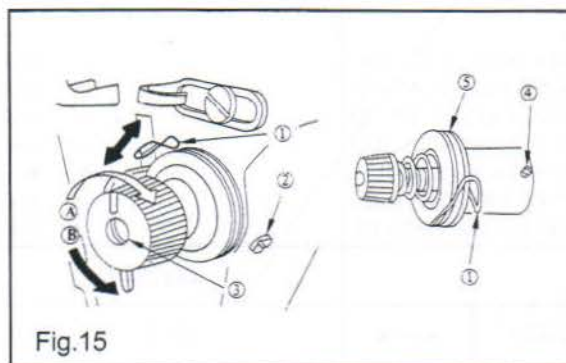

Fig.15
- 1) As you turn tension adjust screw ② clockwise (in direction C), the bobbin thread tension will increase.
- 2) As you turn screw ② counterclockwise (in Direction D), the bobbin thread tension will decrease.
9. THREAD TAKE-UP SPRING (Fig.15)